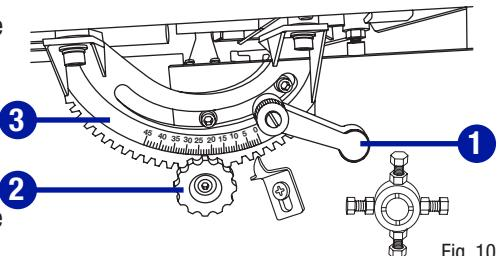

Fig. 10
**WORK TABLE TILT ADJUSTMENT (Fig. 10)**